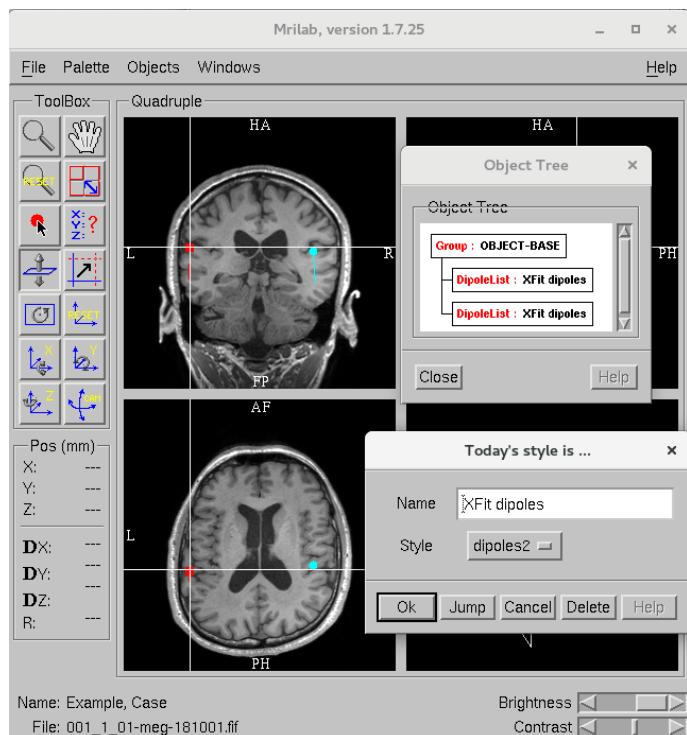

Figure 38: *Mrilab* object tree and changing the dipole appearance.
- Select **Windows -> Object tree**, double-click on an object in the object tree to select a new style for the dipoles (Figure 38).